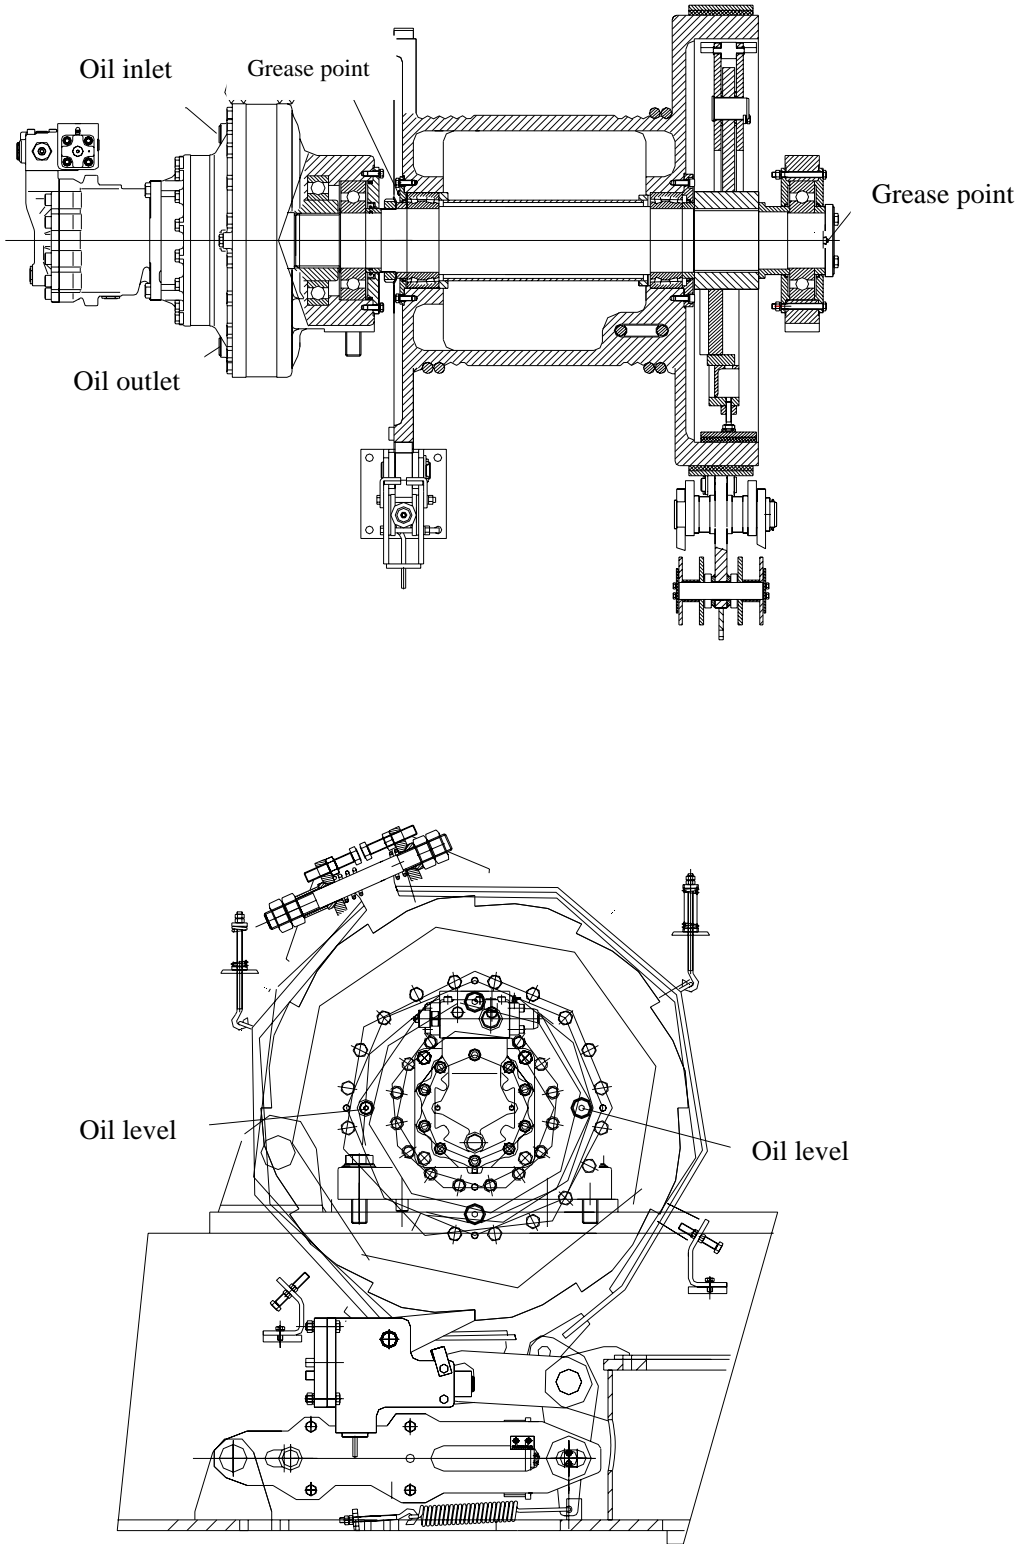

Fig. 6-1 Main, aux. winches
6. The lubrication points, oil filling ports and drainage ports are shown in Fig. 6-1.